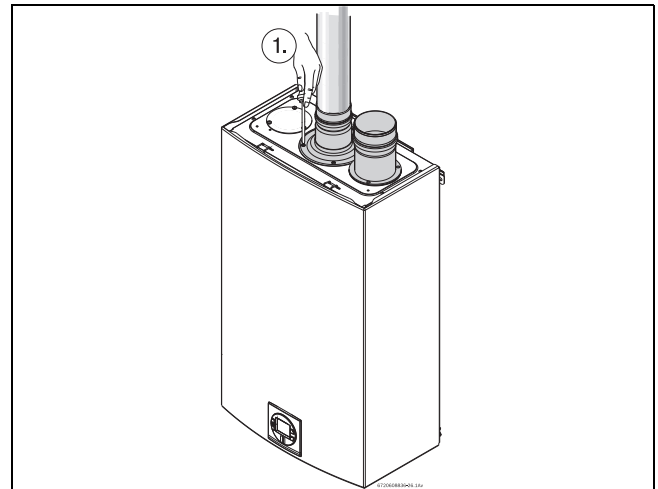

Fig. 20 Exhaust connection
- ▶ Attach the flue gas exhaust accessory to the top of the unit fig. 20 (position 1) using the 4 screws and gasket provided, and fully insert vent pipe into the accessory. If using 4" venting, a 3" to 4" increaser should be installed directly after this accessory.